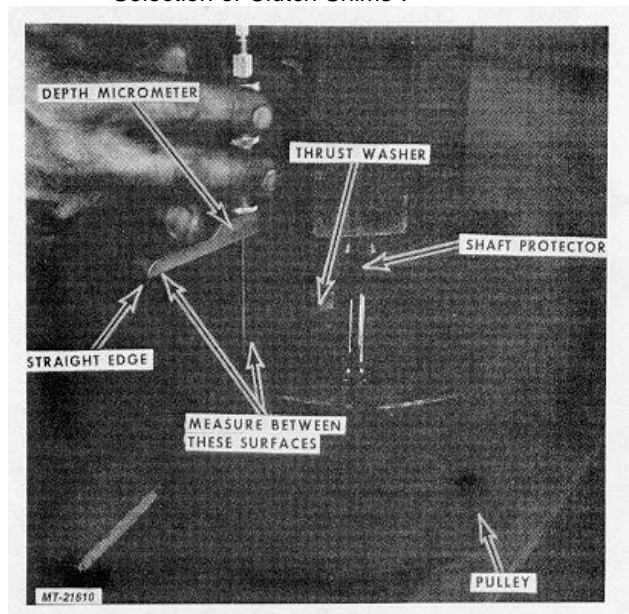

Fig. 80
43. Place Straight Edge SE-2782-7 on top of Pulley with one of the ground surfaces of the Straight Edge against the pulley surface, Fig. 80.